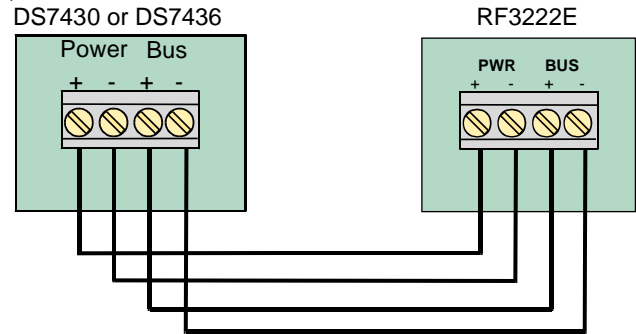

Figure 9- Connecting to the Multiplex Bus
- Connect the DS7430 or DS7436 Multiplex Module terminals to the RF3222E receiver's terminals as shown in Figure 9, using a minimum diameter of 0.8 mm solid wire or 1.0 mm stranded wire. Wire length between the receiver and the control panel should not exceed 300 m. Adding additional devices to the bus may reduce the maximum distance. Shielded cable is not recommended. Do not use twisted pair wire.